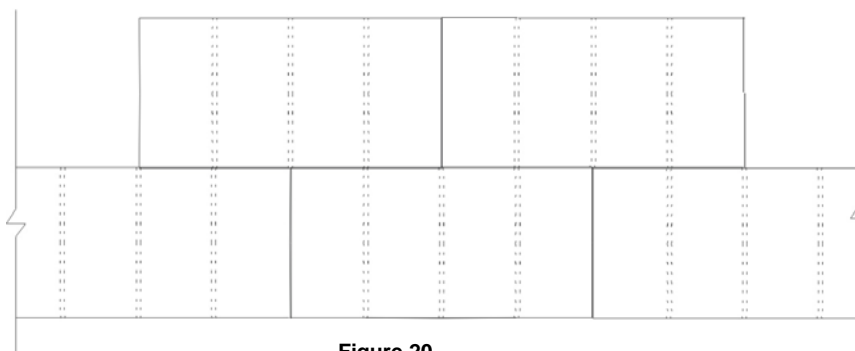

Figure 20
5. Install subsequent rows of insulation board in a running bond pattern (vertical joints staggered) as shown in Figure 20.
18. Corners of all openings such as windows, doors, mechanical equipment and all penetrations shall be reinforced with Detail Mesh placed diagonally to the opening as illustrated in Figure 20 previously.